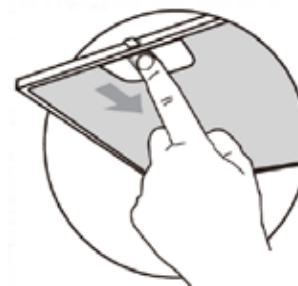

Fig. 1
1. Remove the metal filter as shown in Fig. 1.